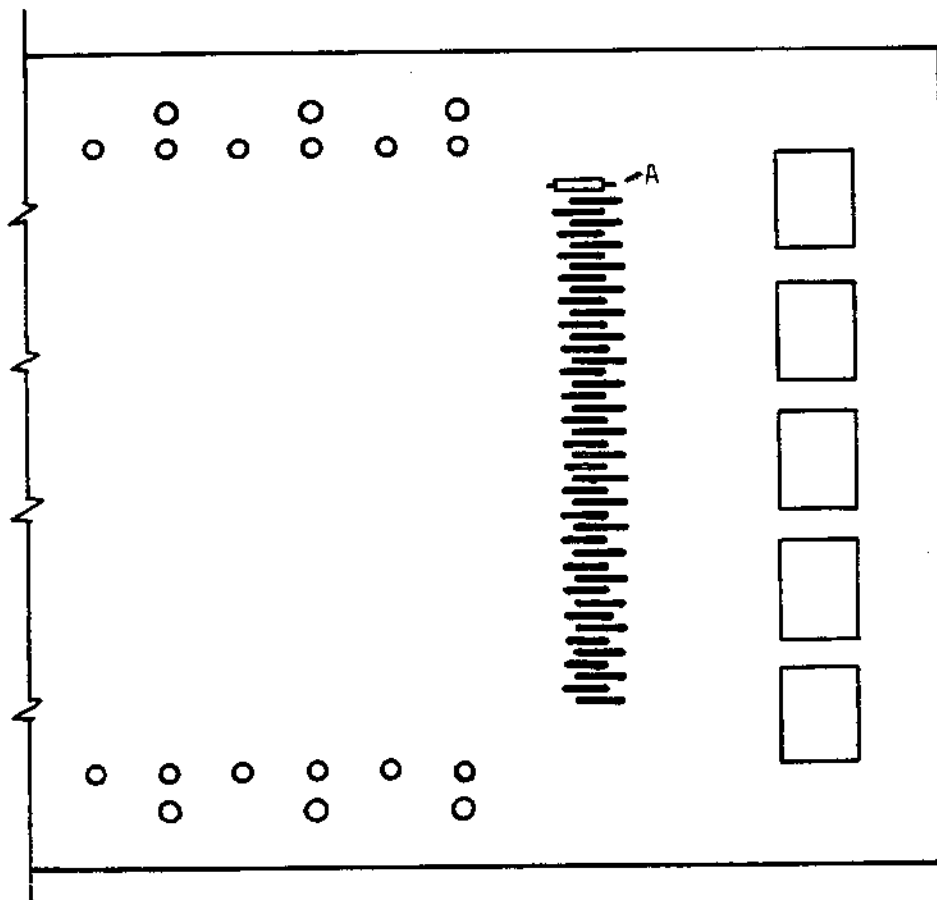

FIG. 11
- ( ) Connect the positive meter lead to the point marked (A) in Fig. 11.